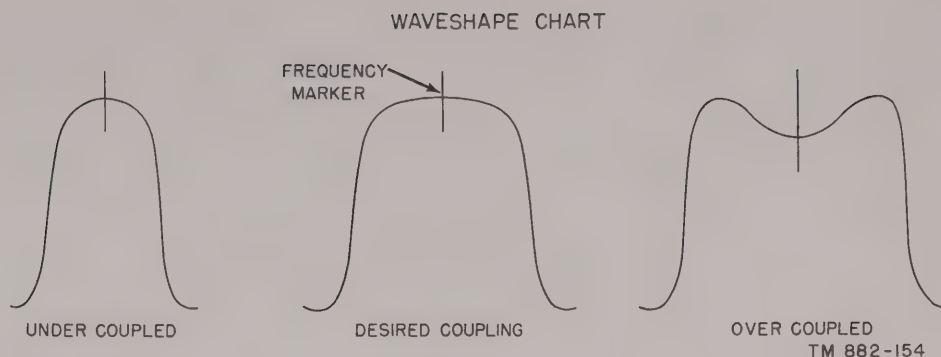
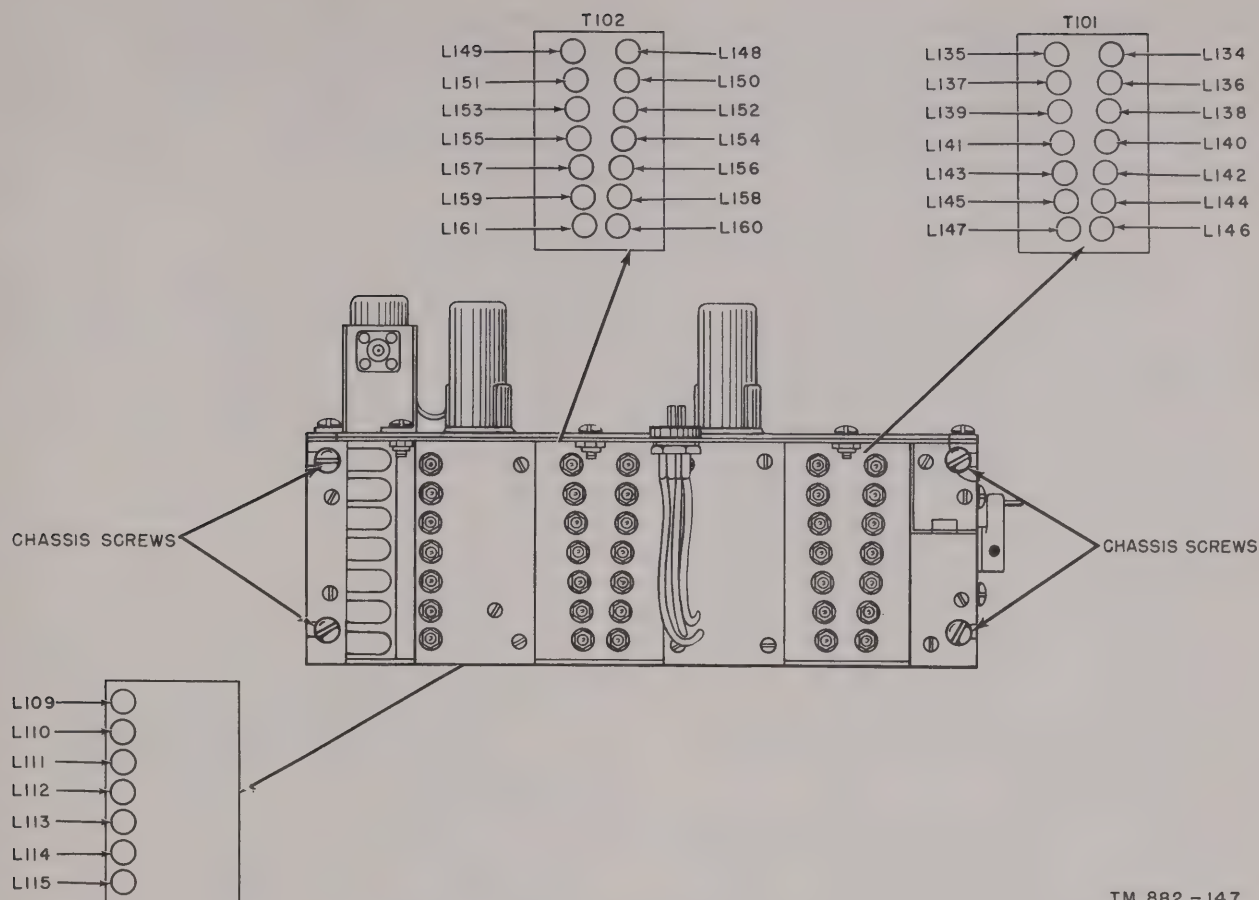

Figure 117. Waveshape chart.
Figure 118. R-f unit, i-f section alinement points.
b. Adjust L115 (fig. 118) for a maximum voltage reading (use alinement tool H379). Set the BAND SELECTOR to bands 2 through 7, adjusting coils L114 through L109 respectively (fig. 118). A minimum injection voltage of .5 volt must be maintained at the cathode of the second mixer (V112) for all bands.
- (1) Rotate the BAND SELECTOR to band 1 and tune to 29.191 mc. Adjust the sweep-marker generator for a proper sweep and marker at 29.191 mc. Adjust the ANTENNA TRIMMER control (C101) and the trimmers on Z101, Z108, and Z115 for maximum output at marker frequency and correct waveshape as indicated on the scope (fig. 117). Rotate the TUNING dial to 20.302 mc and adjust the sweep-marker generator for 20.302 mc. Adjust slugs on Z101, Z108, and Z115 for maximum output and as close to the correct waveshape as possible. At this point consult the waveshape chart, and determine if the coupling is correct.
- (2) If overcoupling exists at *either* end of the band, tune the receiver and test equipment for that end of the band which shows the greatest degree of overcoupling. Adjust the coupling links of the coils for that band on turrets Z151 and Z152 by moving them along the form *away* from the coil winding. This adjustment should be made in small steps, moving each link approximately the same amount, until the desired waveshape is obtained. Minor retuning may be required after this adjustment.
- (3) If undercoupling exists at *both* ends of the band, tune the receiver and test equipment for that end of the band which most closely approximates the desired waveshape. Adjust the coupling links of the coils for that band on turrets Z151 and Z152 by moving them along the form *toward* the center of the coil winding. This adjustment should be made in small steps, moving each link approximately the same amount, until the desired waveshape
b. Adjust L146, L147, L160, and L161 (fig. 118) for a symmetrical response curve with the 6.0942 mc marker at the center (fig. 117). Re-
c. Change the frequency of the marker generator to 8.6369 mc and set the BAND SELECTOR to band 2. Adjust L144, L145, L158, and L159 for a symmetrical response curve (fig. 117).